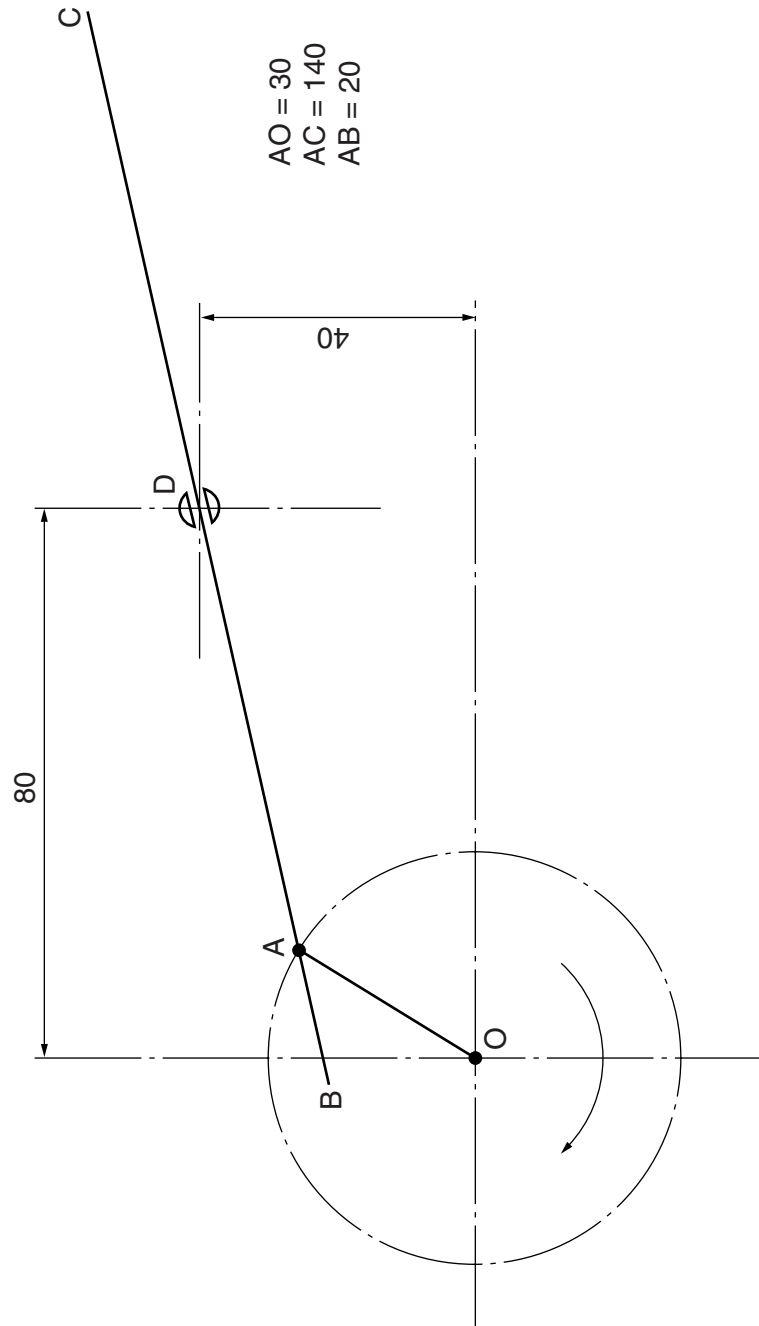

Fig. 2
- 3 Fig. 2 shows the outline of a simple mechanism in which the crank OA rotates about a fixed centre O. The link BC is connected to A by a pin joint, and is able to slide in the guide D which is free to swivel.